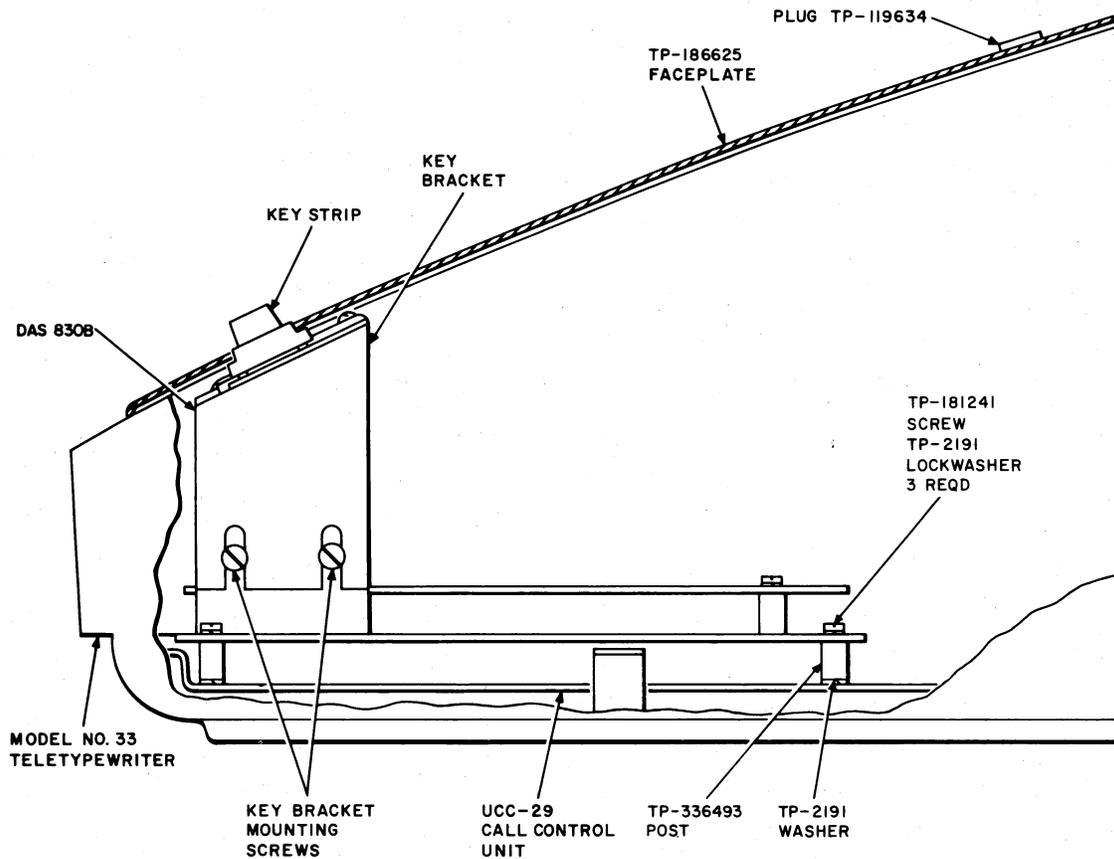
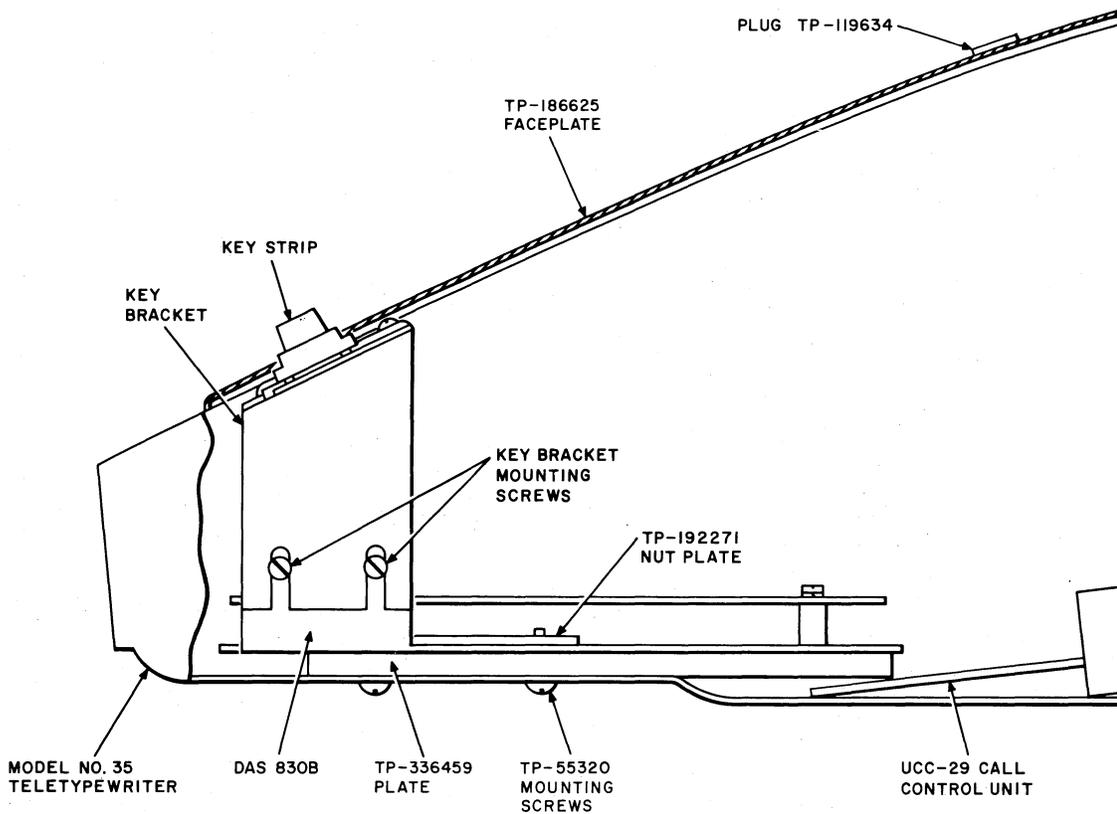

Fig. 7—Mounting Details—DAS 830B in a Model 33 TTY
Fig. 8—Mounting Details—DAS 830B in a Model 35 TTY
- (1) Unplug the TTY cables from DAS 830B, J1 and P2.
- (2) Unplug the EIA interface cord (J1).
- (3) When DAS 830B is mounted in a M33 TTY, refer to Fig. 7 and remove the three mounting screws that secure the baseplate to the call control unit. If a M35 TTY is used, refer to Fig. 8 and remove the two mounting screws under the pedestal panel.
- (4) Lift DAS 830B out of the TTY. When installed in a 35 TTY, a nutplate located under the printed circuit board must be removed (Fig. 8).